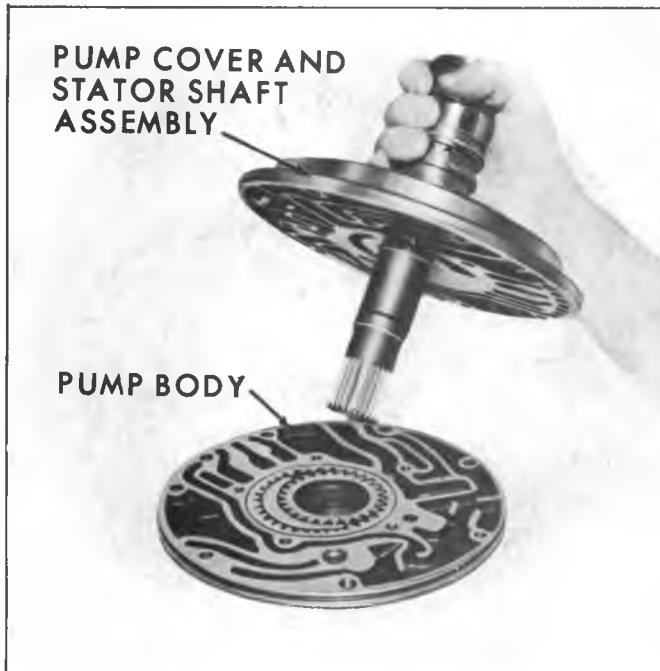

Fig. 60M--Separating Pump Cover from Pump Body
7. Remove pump cover and stator shaft assembly from pump body (fig. 60M).